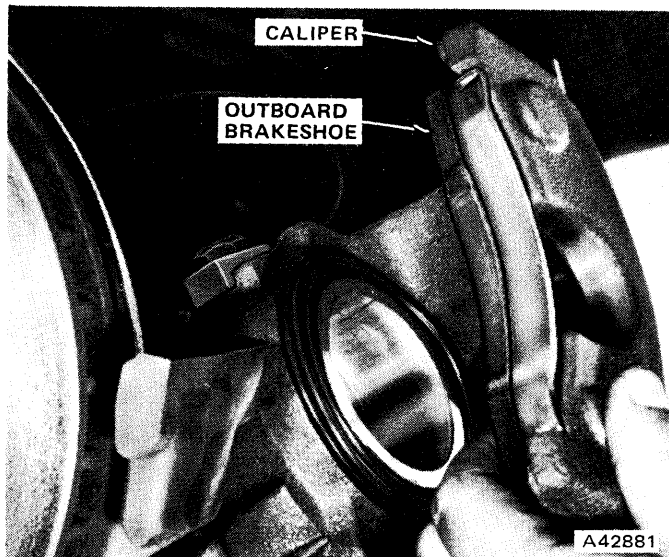

Fig. 9-51 Installing Outboard Brakeshoe
(3) Install outboard brakeshoe in caliper (fig. 9-51).